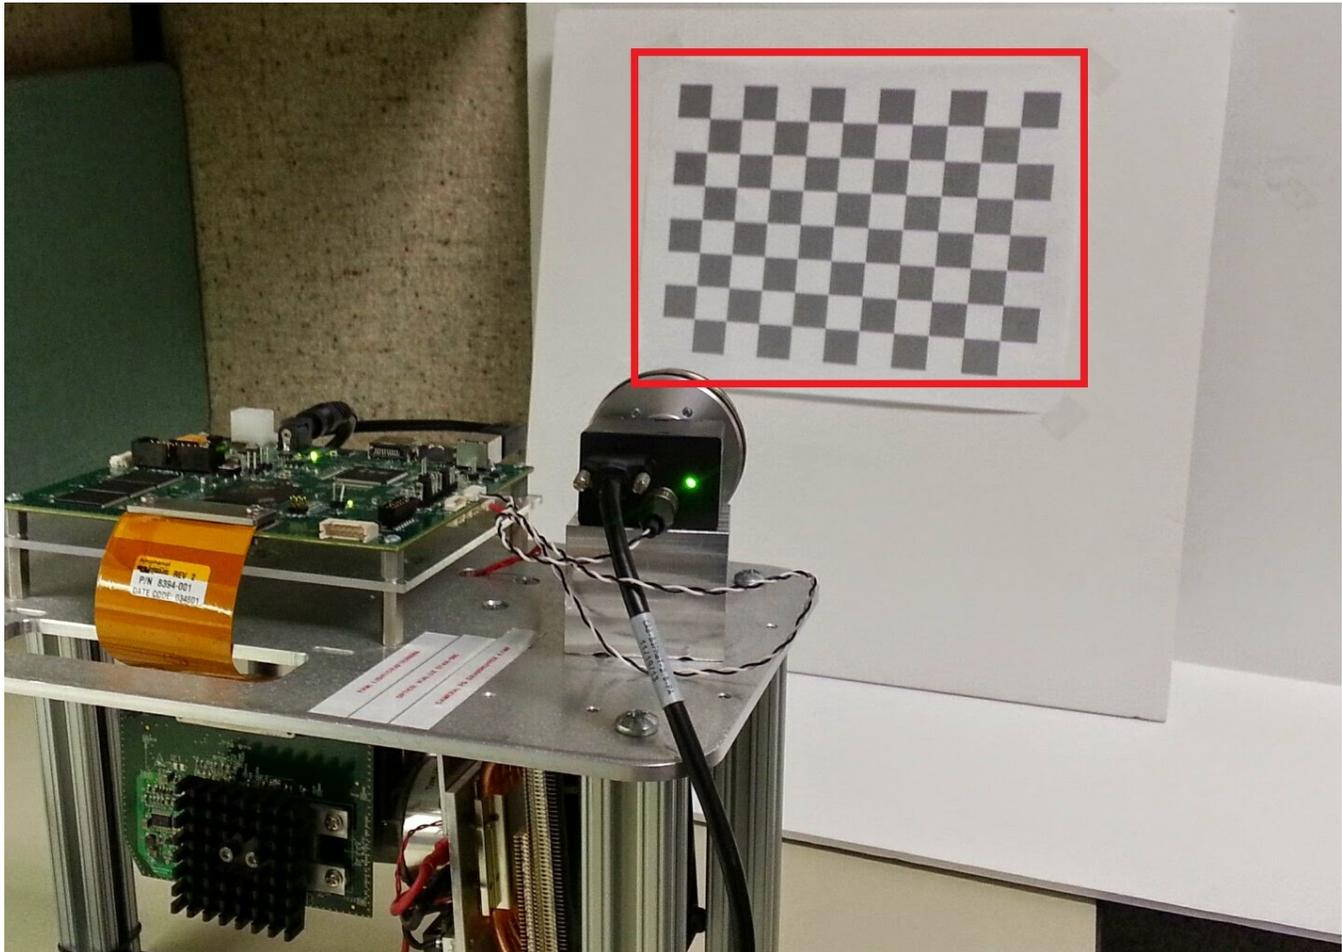

Figure 3-6. Calibration Board Attached to Flat Calibration Surface
4. Attach the printed calibration board to a flat, white surface that is larger than the projection area, as shown in Figure 3-6. The number of squares on the grid can be changed in the configuration files for the program. The default grid is 7 x 10.
5. After attaching the camera calibration board to the calibration surface, measure the length of one side of one of the squares on the grid and type the number into the command prompt as shown in Figure 3-6. Do not enter any units in the command line. Hit enter to continue.